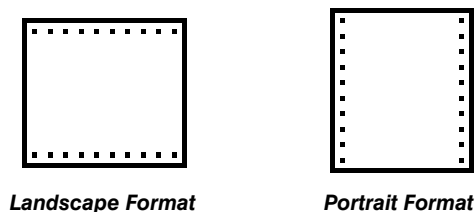

Figure 3-19: Hardcopy Formats
3. Press **SHIFT HARDCOPY MENU** → **Layout** (main) → **Landscape** or **Portrait** (side) (see Figure 3-19).